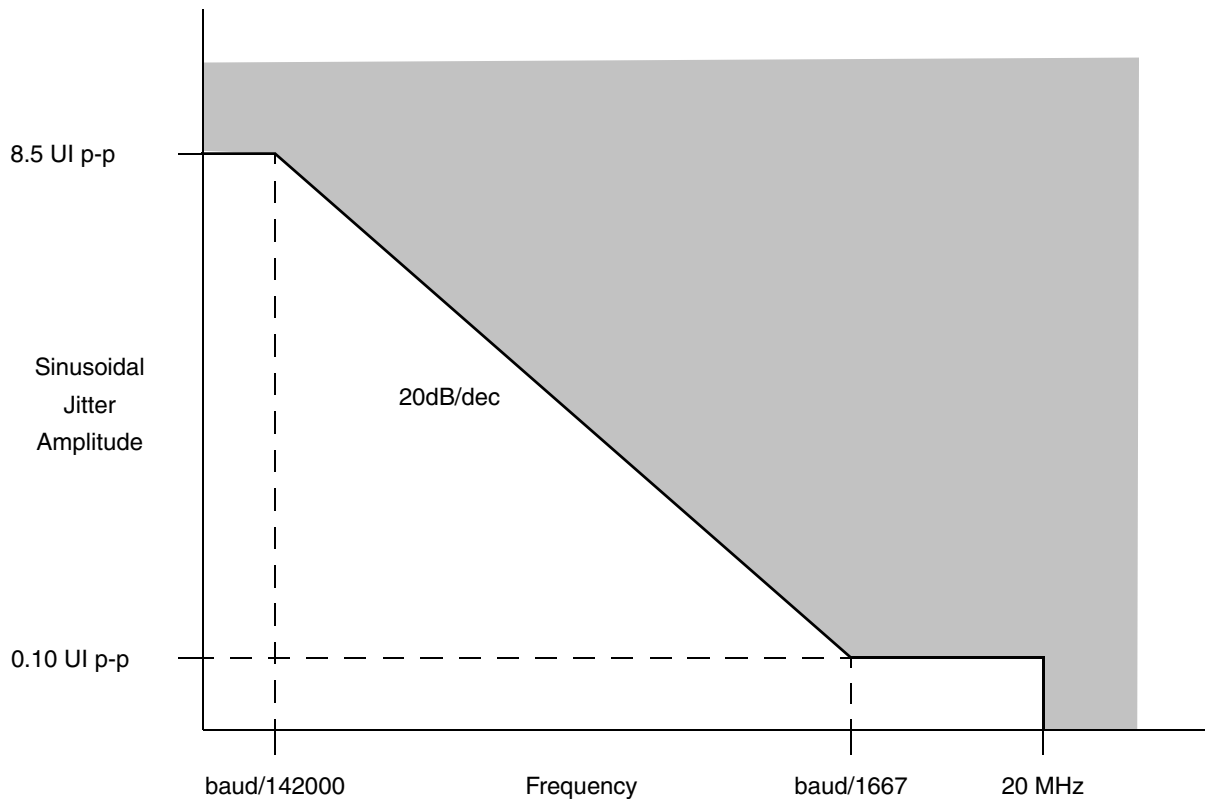

Figure 43. Single-frequency sinusoidal jitter limits
2. Total jitter is composed of three components: deterministic jitter, random jitter and single frequency sinusoidal jitter. The sinusoidal jitter may have any amplitude and frequency in the unshaded region of Figure 43. The sinusoidal jitter component is included to ensure margin for low-frequency jitter, wander, noise, crosstalk, and other variable system effects.
2. Total jitter is composed of three components: deterministic jitter, random jitter, and single frequency sinusoidal jitter. The sinusoidal jitter may have any amplitude and frequency in the unshaded region of Figure 43. The sinusoidal jitter component is included to ensure margin for low frequency jitter, wander, noise, crosstalk, and other variable system effects.